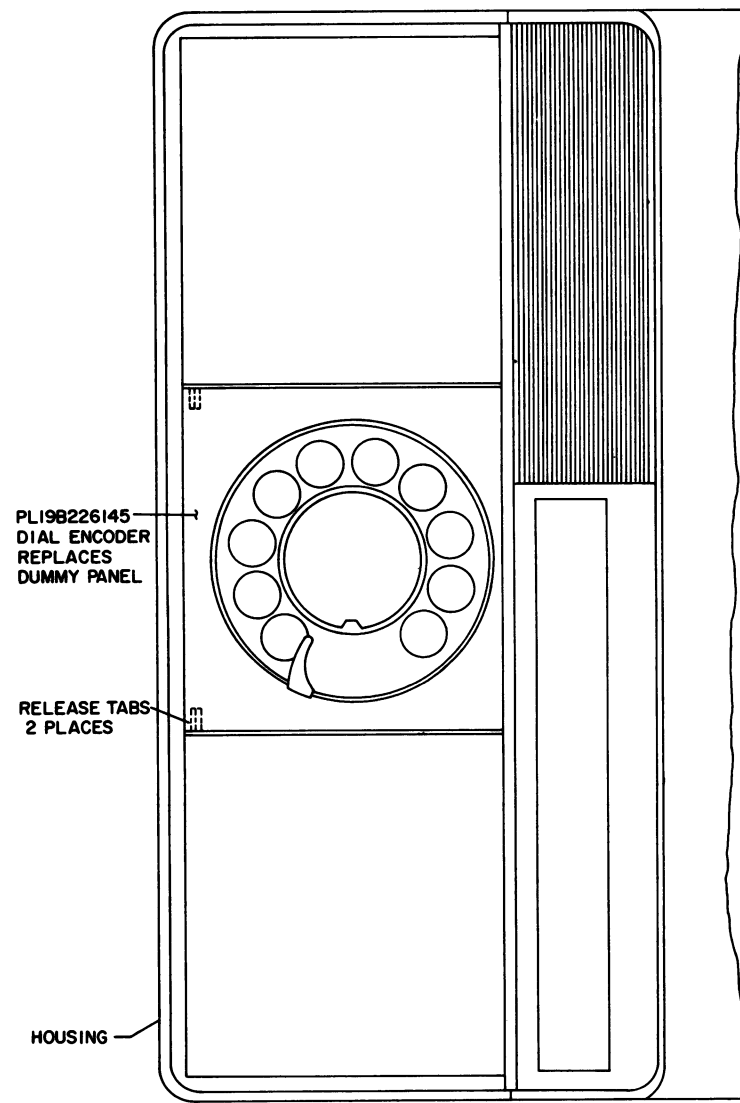

FIG. 1
4. REMOVE DUMMY PLATE, IF PRESENT, BY DEPRESSING 2 RELEASE TABS WHICH ARE AVAILABLE FROM THE BOTTOM OF HOUSING. SEE LOCATION AT FIG. 1. RETURN PLATE TO STOCK.
5. ASSEMBLE DIAL ENCODER PL19B226145 IN VACANT AREA. SEE FIG. 1.
2. REMOVE 4- #8 SCREWS AT BOTTOM OF UNIT AND REMOVE HOUSING FROM BASE PLATE. SEE FIG. 1 & 5.
3. REMOVE DUMMY PLATE, IF PRESENT, BY DEPRESSING 2 RELEASE TABS WHICH ARE AVAILABLE FROM THE BOTTOM OF HOUSING. SEE LOCATION AT FIG. 1. RETURN PLATE TO STOCK.
5. ASSEMBLE DIAL ENCODER (MODIFIED TO STEP 4 ABOVE) IN VACANT AREA. SEE FIG. 1.